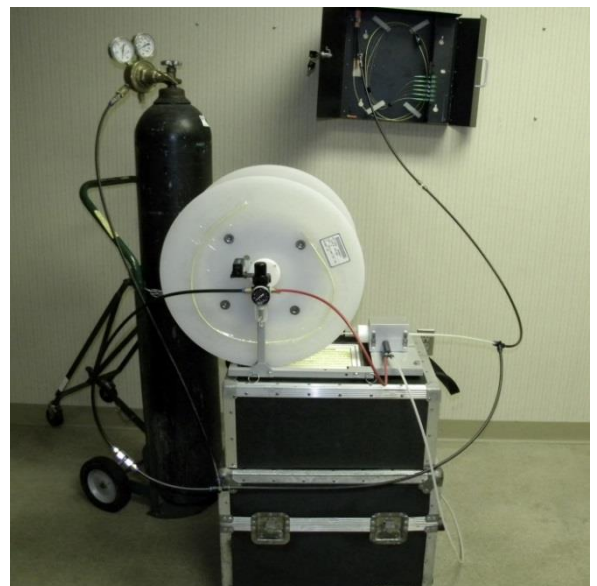

Figure 59
14.3 After following the SP-F04-001 procedure to arrange the older transit case, it should look comparable to the standard blowing head equipment assembly. See Fig 59.